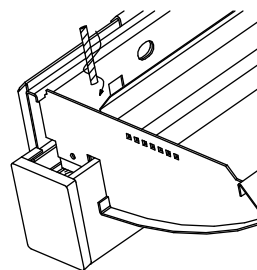

Figure 9
- B. Securely tighten the set screws on both ends of the run. (Fig. 9)